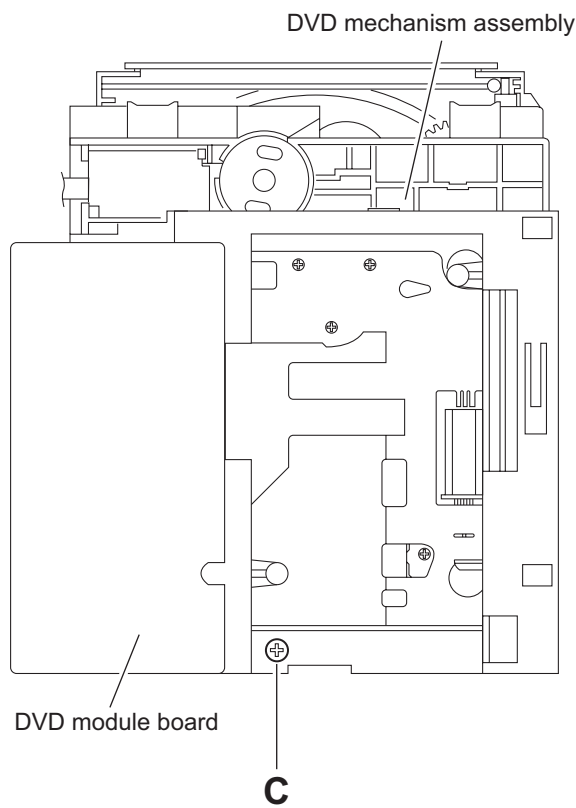

Fig.3
- (3) Remove the one screw **C** attaching the tramecha holder. (See Fig.3)